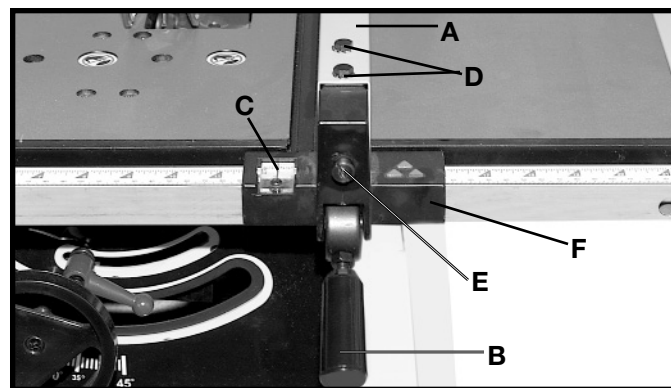

Fig. 43
1. To move the rip fence (A) Fig. 43, along the table, lift up fence locking lever (B), slide the fence to the desired location on the table and push down fence locking lever (B) to lock the fence in position.
2. A pointer is supplied to indicate the distance the fence is positioned away from the saw blade. If an adjustment to the pointer is required, loosen the screw (C) Fig. 43, that fastens the pointer to the fence bracket and adjust the pointer accordingly. Then, tighten screw (C).
7. Loosen the two screws (D) Fig. 43, and lift up locking lever (B). Then while holding the fence bracket (F) firmly toward the front of the saw, move the rear end of the fence (A) until it is parallel with the miter gage slot. Then tighten two screws (D) and push down locking lever (B).
8. The clamping action of the fence (A) Fig. 43, can be adjusted by lifting up locking lever (B) and turning screw (E) clockwise to increase or counterclockwise to decrease the clamping action of the fence.